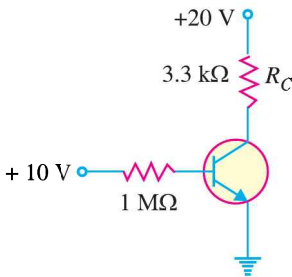

Fig. 8.70
8. Draw the d.c. load line for Fig. 8.70.
9. If the collector resistance R_C in Fig. 8.70 is reduced to $1\ \text{k}\Omega$, what happens to the d.c. load line?